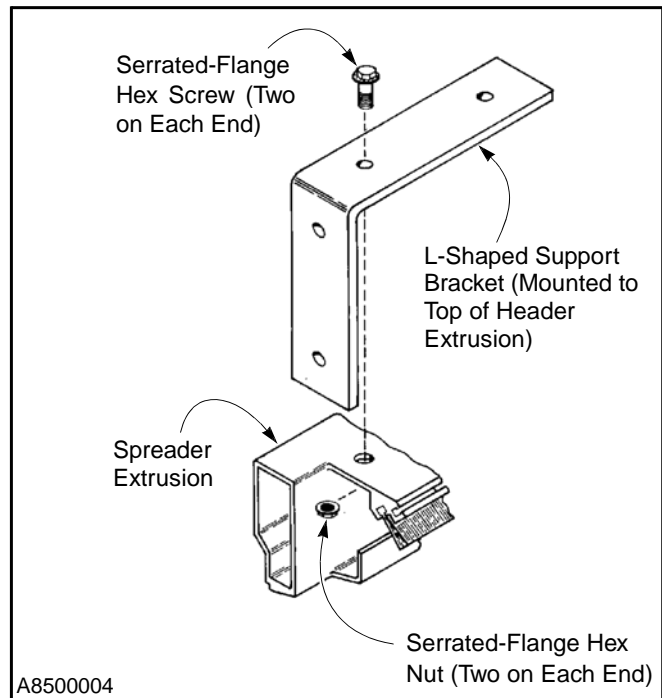

Figure 14
- Attach an L-shaped support bracket to each end of the spreader extrusion using two $\frac{3}{8}$ -16 x $1\frac{1}{4}$ -in. serrated-flange hex screws and nuts. The brackets and mounting hardware were shipped in the small parts carton. (See Figure 14.)